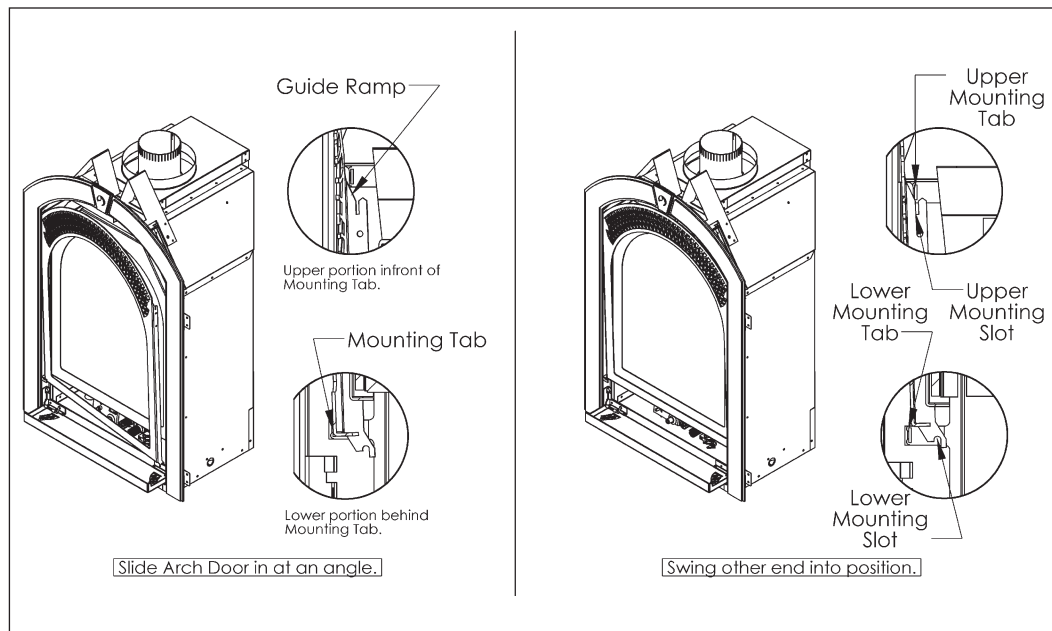

Figure 17 - Arch Door installation.
2. Slide the Arch Door into the unit as shown in Figure 17. Ensure that the upper portion of the frame is IN FRONT of the Upper Mounting Tab, and the lower portion is BEHIND the Lower Mounting Tab.